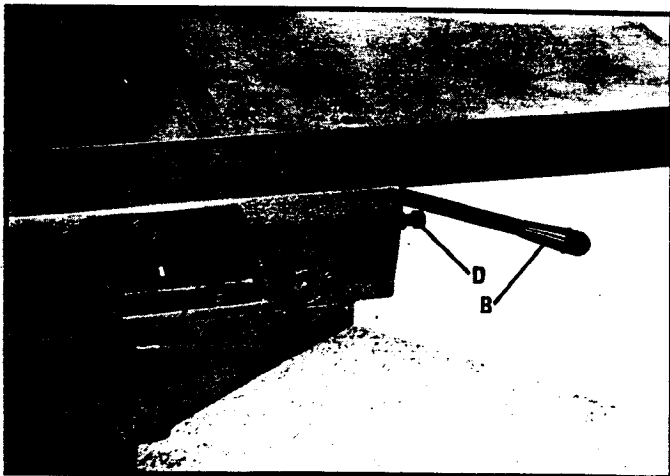

Figure 3-2
6. Loosen lock knob (A, Figure 3-2)¹ and raise or lower lever (B, Figure 3-2) until the straight edge clears the cutterhead body by exactly .010". Use a feeler gauge to measure clearance.
NOTE: the .010" gap is a critical dimension! Retighten lock knob (A, Fig 3-2).